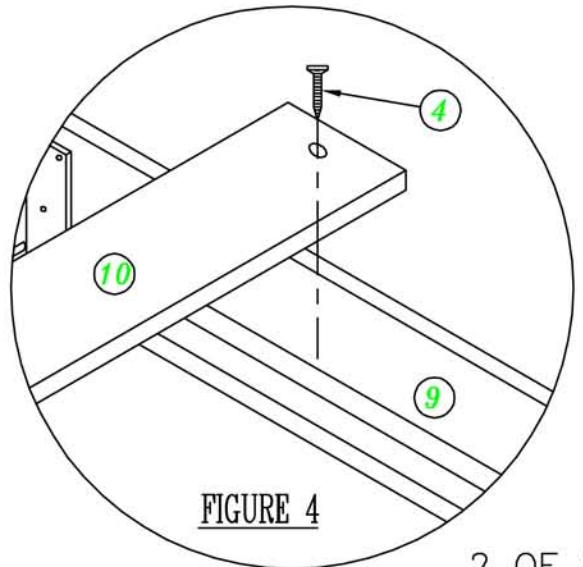

FIGURE 4
- Secure other slats (10) with screw (3). Tighten all screws
- Secure both ends of slats (10) to the side rails (9) with screw (4). See Figure 4